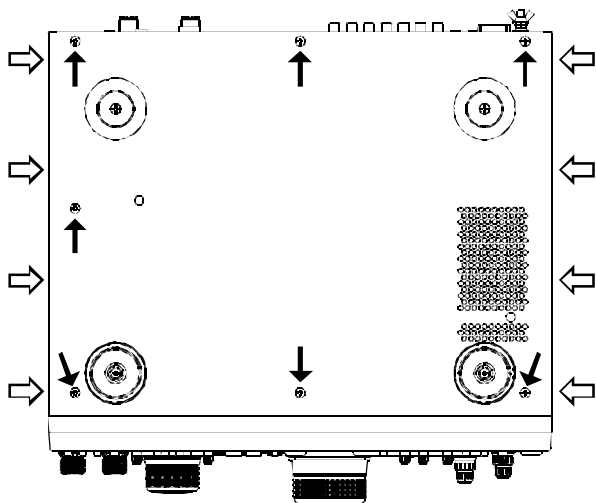

Figure 1
- ❑ Referring to Figure 1, remove the four screws (\rightleftarrows) on each side of the transceiver, and the seven screws (\rightarrow) from the bottom of the transceiver, then lift off the bottom cover.
- ❑ Referring to Figure 1, remove the four screws (⇨) on each side of the transceiver, and the seven screws (→) from the bottom of the transceiver, then lift off the bottom cover.